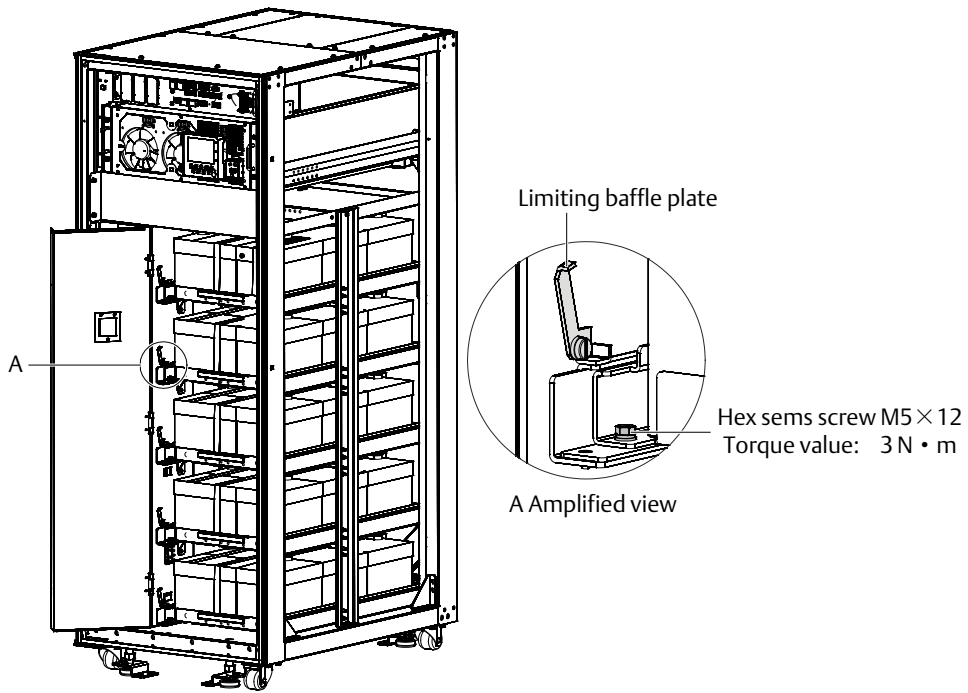

Figure 8-9 Fixing battery tray
6. Use torque value in Figure 8-9 to fix both sides of the battery tray, then pull up the limiting baffle plate.